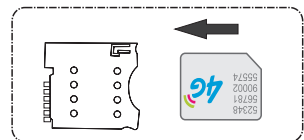

Fig. 2-3
① Please insert the SIM card in the shut-down state of panel, the side with the disk facing down, then push the SIM card into the slot, as Fig. 2-3.